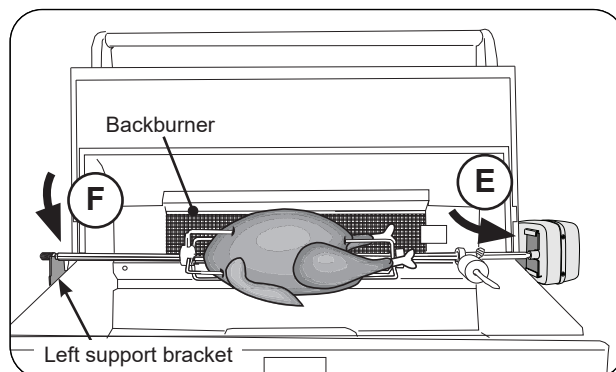

Fig. 39-4 Attach Rotisserie rod to motor
10. Insert the pointed-end of the rod into the motor drive socket (see Fig. 39-4, E). Then rest rod groove (next to the knob) into the left support bracket (see Fig. 39-4, F).